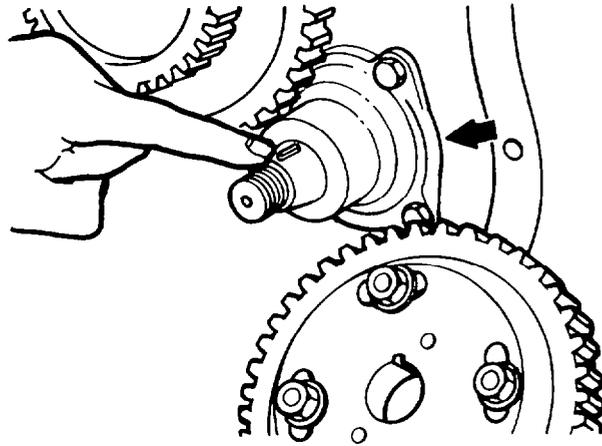

Fig. 51 — Injection Pump Drive Shaft Key Location
- i. Remove the locknut securing the injection pump drive gear and hub to the engine; if necessary use a suitable puller to remove the hub and gear from the shaft; remove the key from the shaft (see fig. 51).